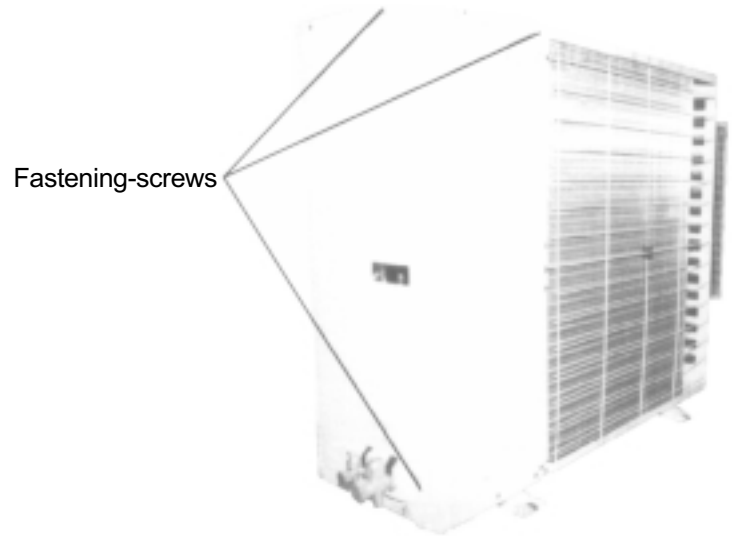

Figure 36
- ② Disassemble the rear side panel.
- Grasp the handle, and pull upwards the rear side panel and remove it as shown in figure 36 and 37.